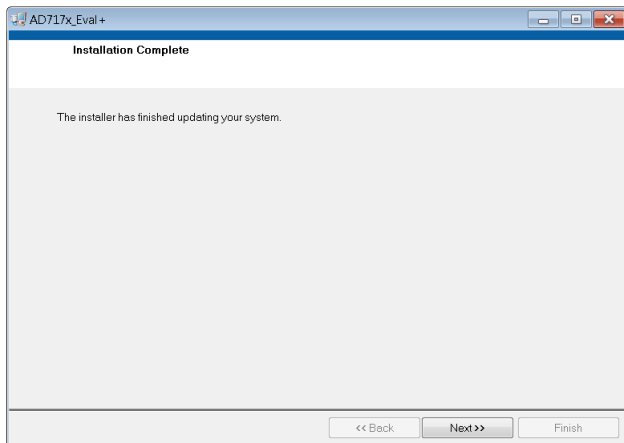

Figure 7. AD717x Eval+ Installation Complete
- The message in Figure 7 appears when the installation is complete.